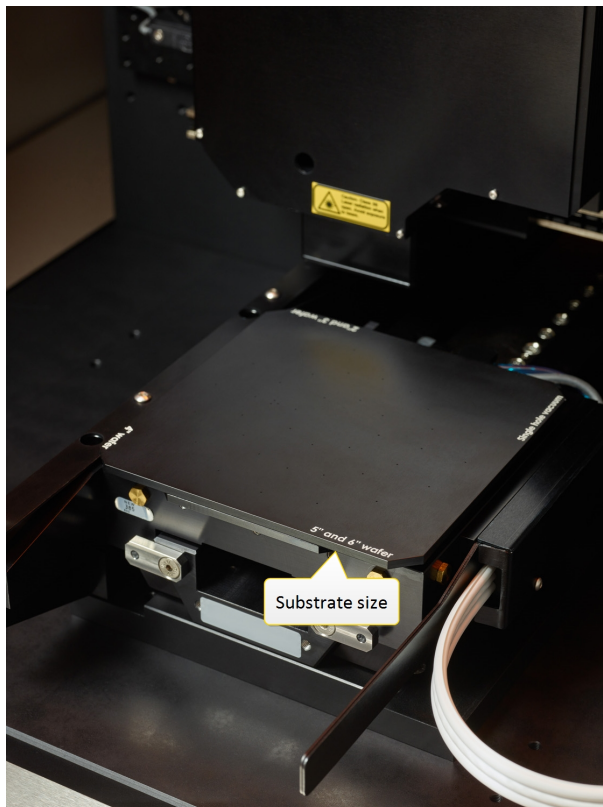

Figure 3-8 Vacuum chuck front size
7. Check if the text on the vacuum chuck front corresponds to your substrate size, see n Figure 3-8